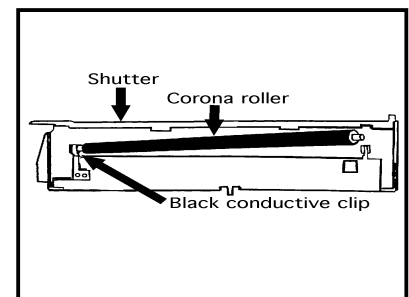

Figure 4
3. Remove the PCR (primary charge roller). Clean the roller with Anakenesis® PCR Cleaner (Fig. 4).